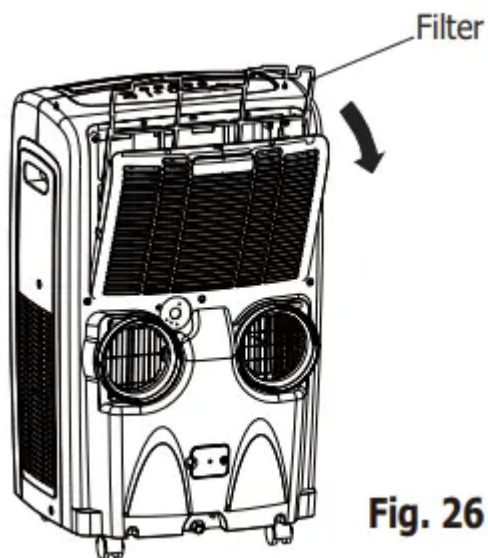

Fig. 26
- This unit has a filter. Grasp the upper panel tab and take off the filter which is behind the grill of the back panel (Fig.26).